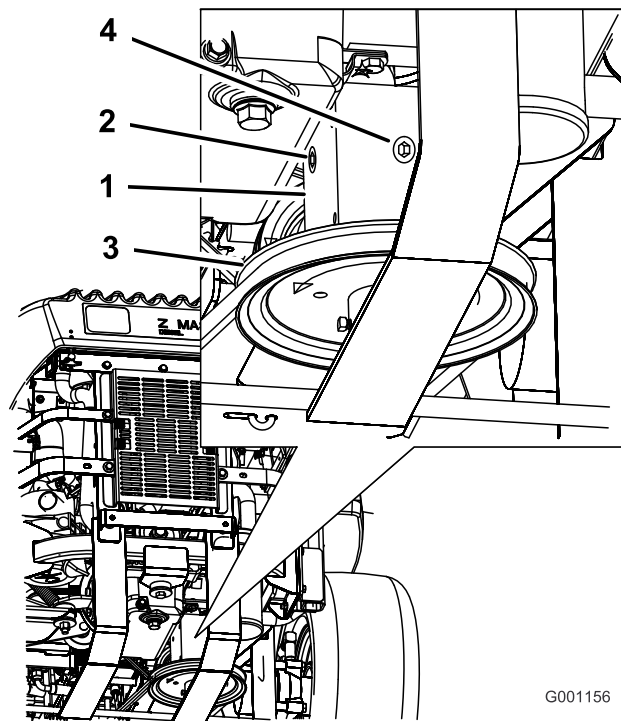

Figure 60
4. Remove the side or rear plug on the gearbox. (Figure 60).